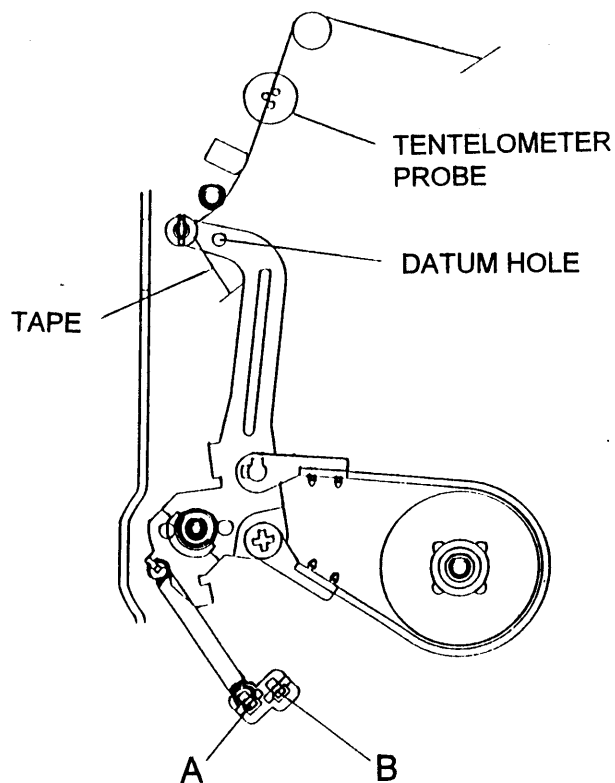

Fig. 4-6 BACK TENSION MEASUREMENT
4-2. BACK TENSION MEASUREMENT (See Fig. 4-6~4-7)
- Bring the TENTELOMETER into contact with the TAPE (Fig. 4-6) and measure the BACK TENSION. The measuring result should be between 25 and 33 grams.